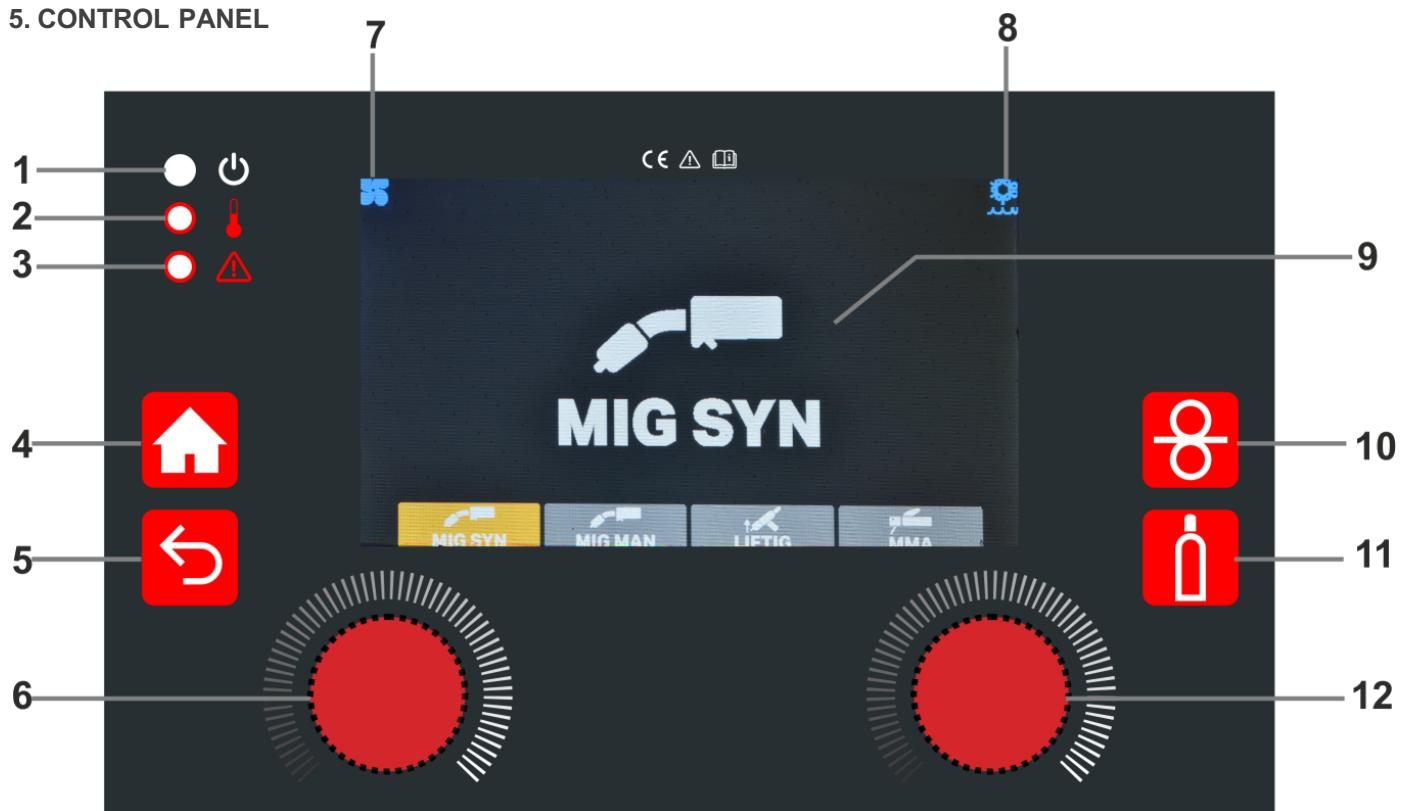
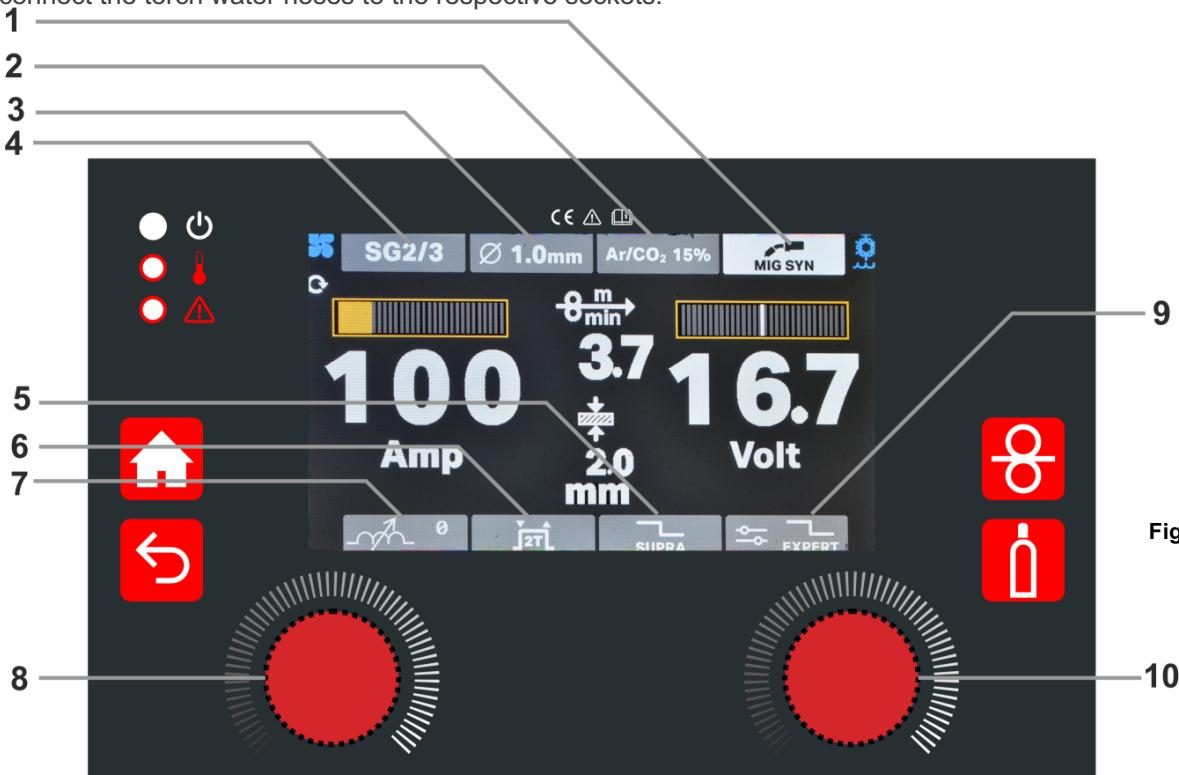
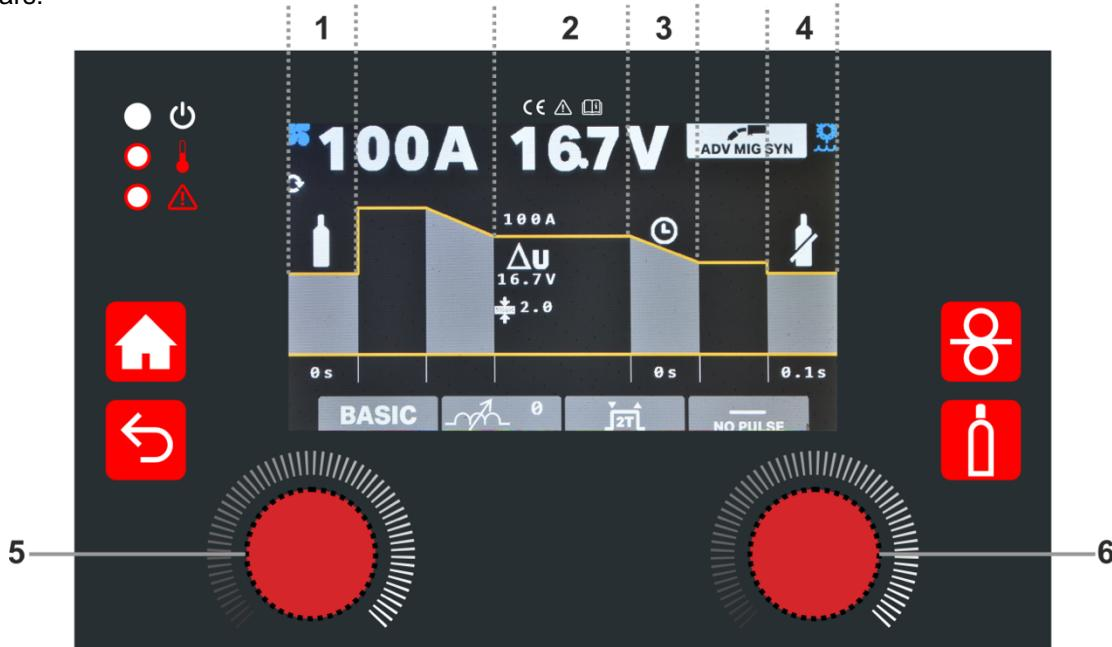
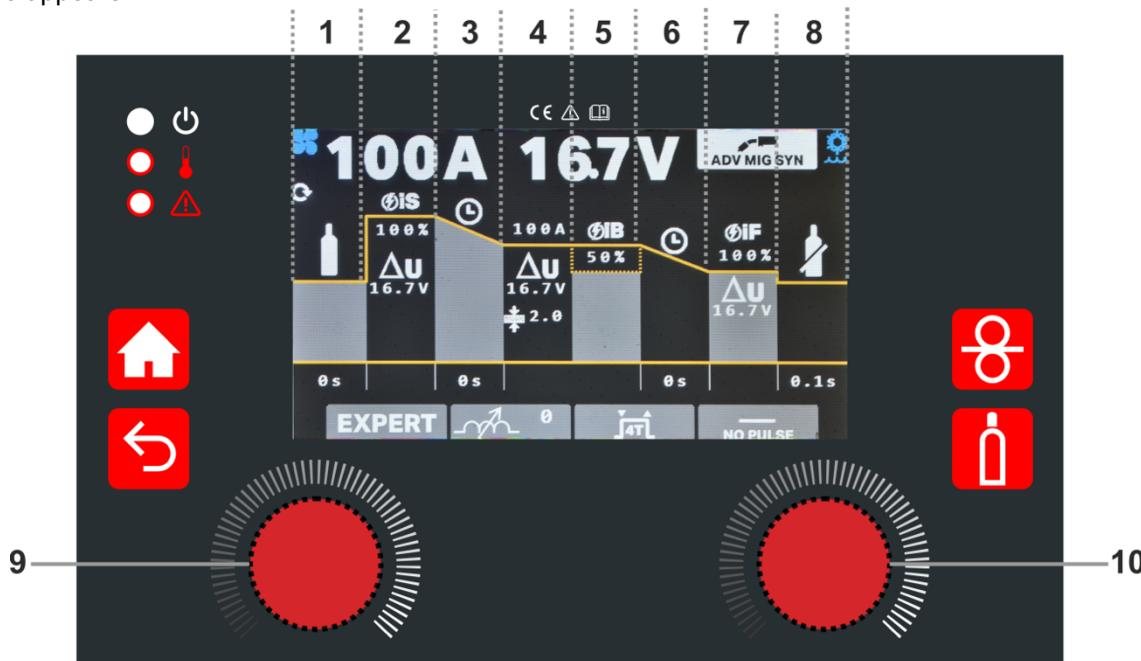

Fig 1.
Fig 5.
Fig. 6
Fig. 8
- Choose the gas type according to the selected welding program on Fig.6 – Welding programs at the following page.
Select MIG/MAG SYN welding mode by pressing right side encoder (10 - Fig. 5) on the respective menu item. You have entered the MIG SYN mode in which you can visualize the respective mode status (1 – Fig. 1). All menu items when clicked turn red to set their value. Select the material to be welded (menu item 4 – Fig. 5), wire diameter (menu item 3 – Fig. 5) and gas type (menu item 2 – Fig. 5) with right side encoder (10 - Fig. 5) according to the following synergic programs tables:
- Adjust the inductance (menu item 7 – Fig. 5) with right side encoder (10 - Fig. 5): less inductance (narrower arc, more penetration) and more inductance (wider arc, more filling).
- Within the synergic program, you can adjust the welding current with left side encoder (8 – Fig. 5) and with right side encoder (10 - Fig. 5) you can make a fine synergic adjustment.
- You can choose between 2T, 4T or SPOT welding torch mode with right side encoder (10 - Fig. 5):
MIG/MAG Spot mode – When selected indicates that machine is in MIG/MAG Spot welding mode. Turn right side encoder (10 - Fig. 5) to select the SPOT time in seconds. Start spot welding by pressing torch trigger and continuing pressing until the end of the adjusted MIG welding program.
- You can choose between non pulsed short circuit welding and SUPRA (menu item 5 – Fig. 5) with right side encoder (10 - Fig. 5). SUPRA is a type of pulsed welding (an alternation between two levels of power) with short circuit transfer mode (see chapter 8.4 for more information).
In order to enter ADV MIG SYN, turn right encoder (Nr.10 – Fig. 5) until button (nr.9 – Fig. 5) turns yellow. Then press the right encoder's button. To select BASIC MODE (in ADV MIG SYN) press the right encoder's button (nr. 6 – Fig. 6) until a parameter turns yellow. Rotate the right encoder until button BASIC/EXPERT turns yellow. Press the right encoder's button to turn the BASIC/EXPERT button to red. Rotate the right encoder until BASIC mode appears.
In order to enter ADV MIG SYN, turn right encoder (Nr.10 – Fig. 5) until button (nr.9 – Fig. 5) turns yellow. Then press the right encoder's button. To select EXPERT MODE (in ADV MIG SYN) press the right encoder's button (nr. 10 – Fig. 8) until a parameter turns yellow. Rotate the right encoder until button BASIC/EXPERT turns yellow. Press the right encoder's button to turn the button BASIC/EXPERT to red. Rotate the right encoder until BASIC mode appears.
FINAL SYNERGIC ADJUSTMENT	In 2T torch mode, select the final power time in seconds or final power voltage by pressing right encoder (10 – Fig.8) until start power time image is red and turning the same encoder.